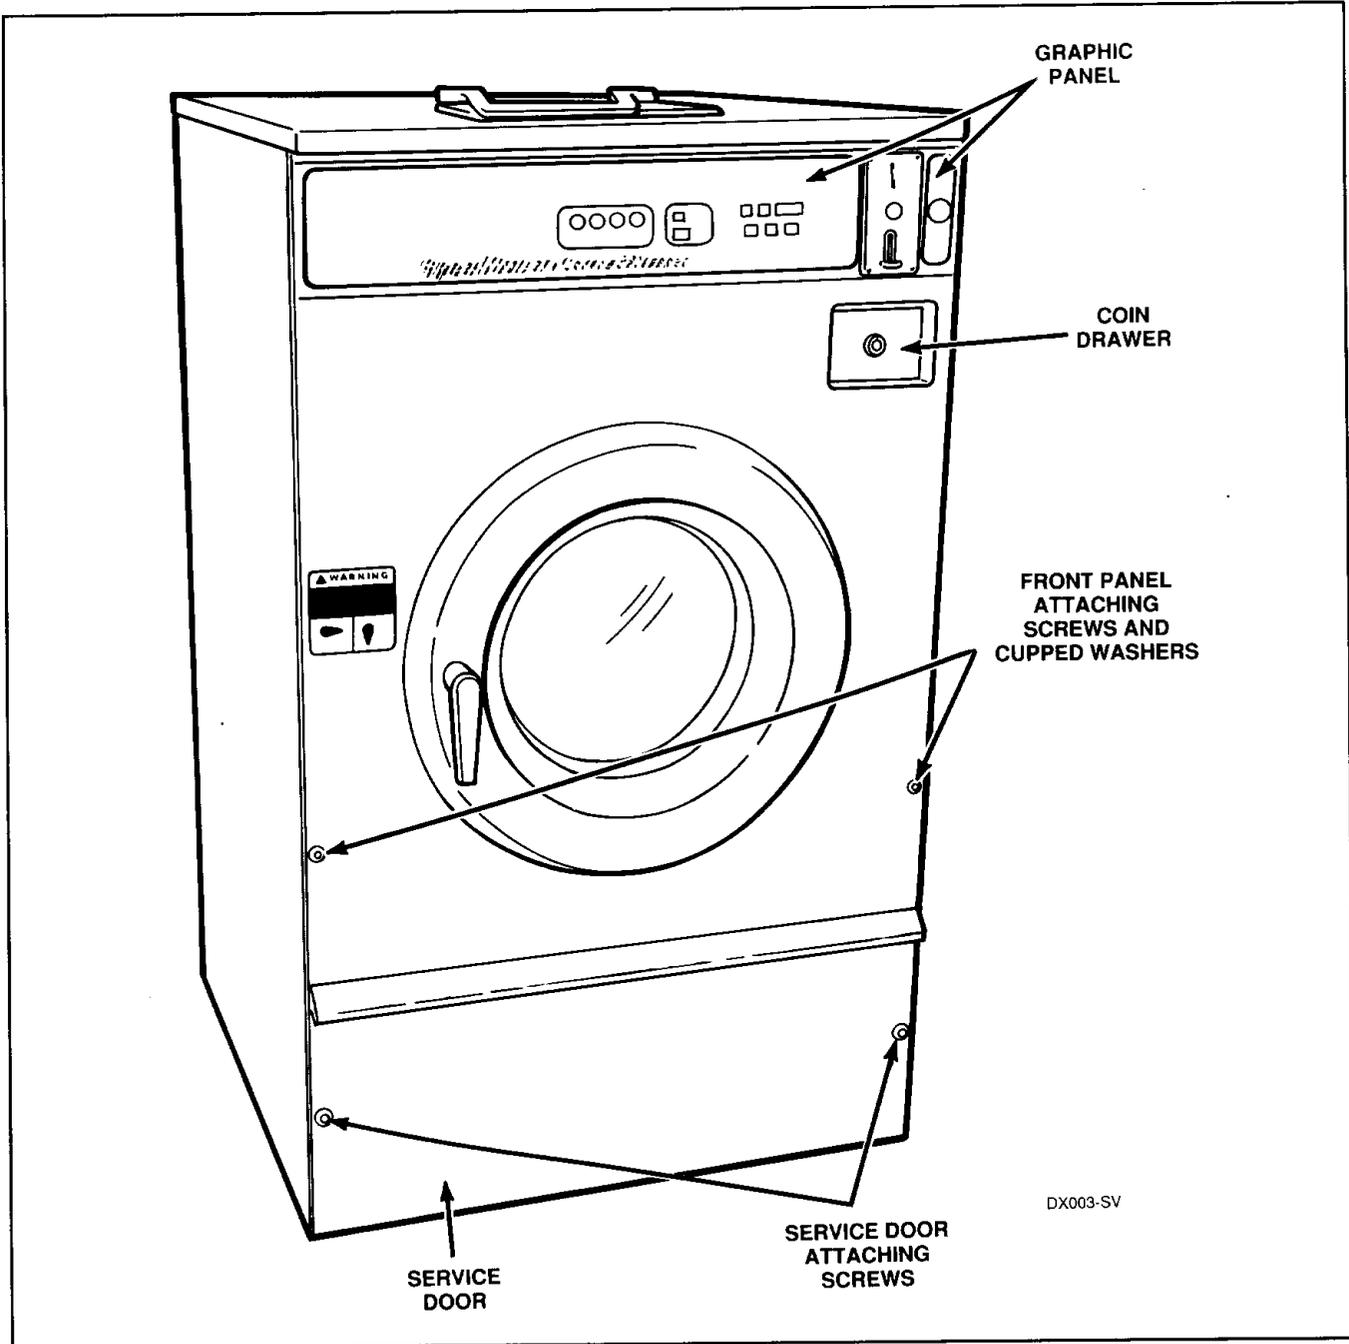

Figure 3
Remove the two screws and cupped washers holding the service door to the washer side panels and remove door, *Figure 3*.
## 3. GRAPHIC PANEL OVERLAY (*Figure 3*)
- Remove two screws and cupped washers holding lower front access panel to washer side panels and remove panel, *Figure 3*.
- e. Remove two screws and cupped washers holding service door to the washer side panels and remove door, *Figure 3*.
- f. Remove two screw and cupped washers holding front panel to side panels, *Figure 3*.
- g. Remove two screws and cupped washers holding service door to washer side panels and remove door, *Figure 3*.
- a. Remove two screws and cupped washers holding the service door to the washer side panels and remove the door, *Figure 3*.